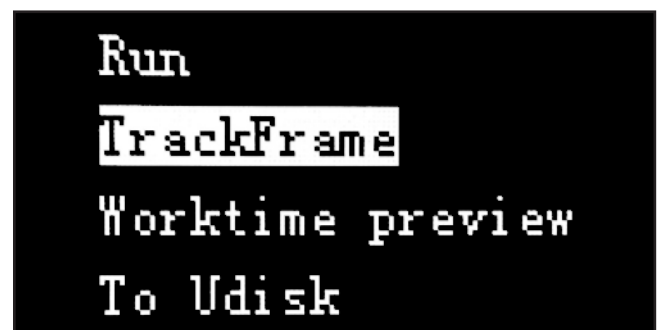

Figure 61. TrackFrame selected.
2. Highlight "TrackFrame" in job setup screen (see **Figure 61**).